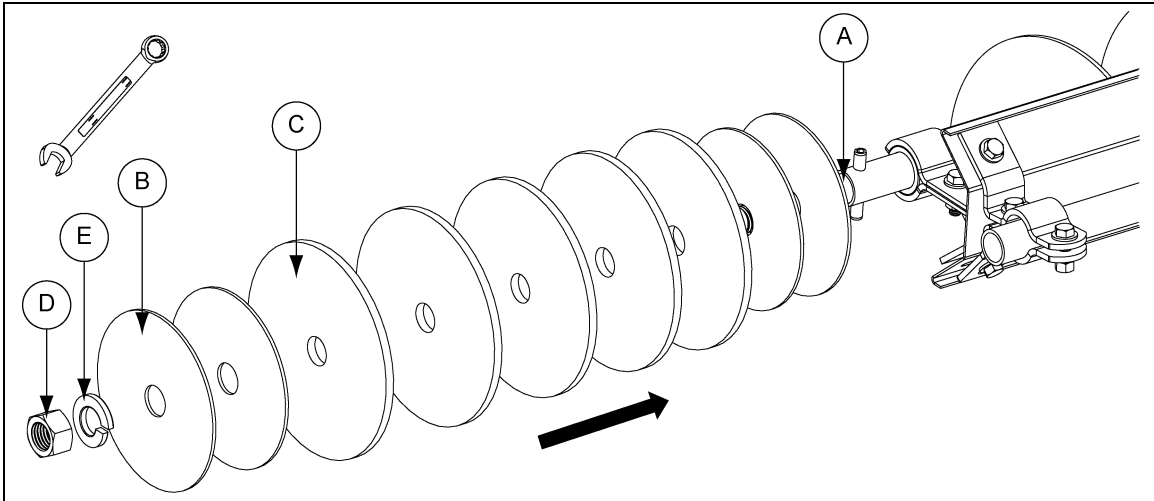

Figure 40
Step 15: Assemble and fit wheel. (See Figure 40.)